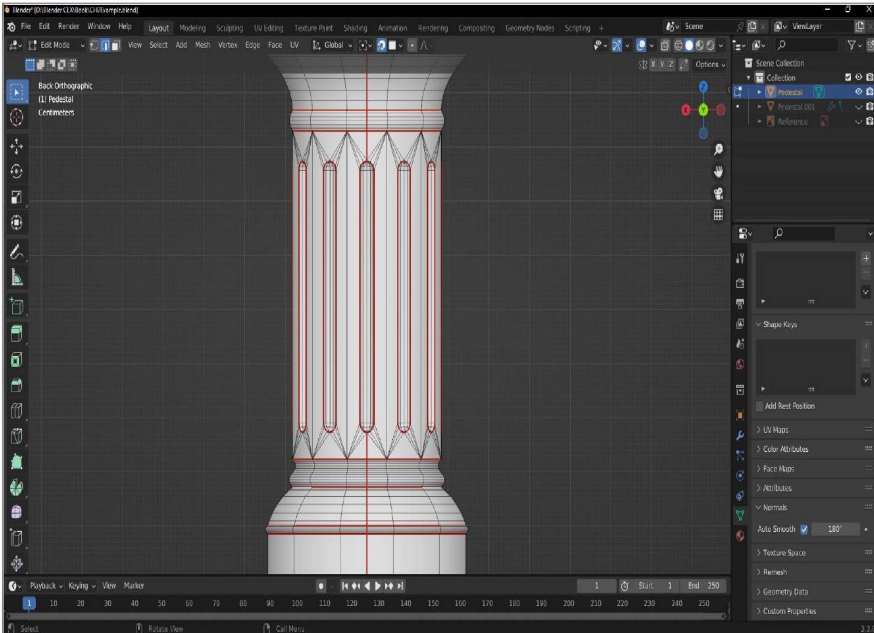

Figure 7.15: Horizontal edge loops marked as Seams at points where the silhouette sharply changes direction
10. Next, switch back to **Edge Select mode**, then **Alt + click** to loop select a horizontal edge anywhere that the silhouette of the column sharply changes direction as shown in *Figure 7.15*, then press and hold **Shift** to select the remaining horizontal edge loops with similar direction changes.